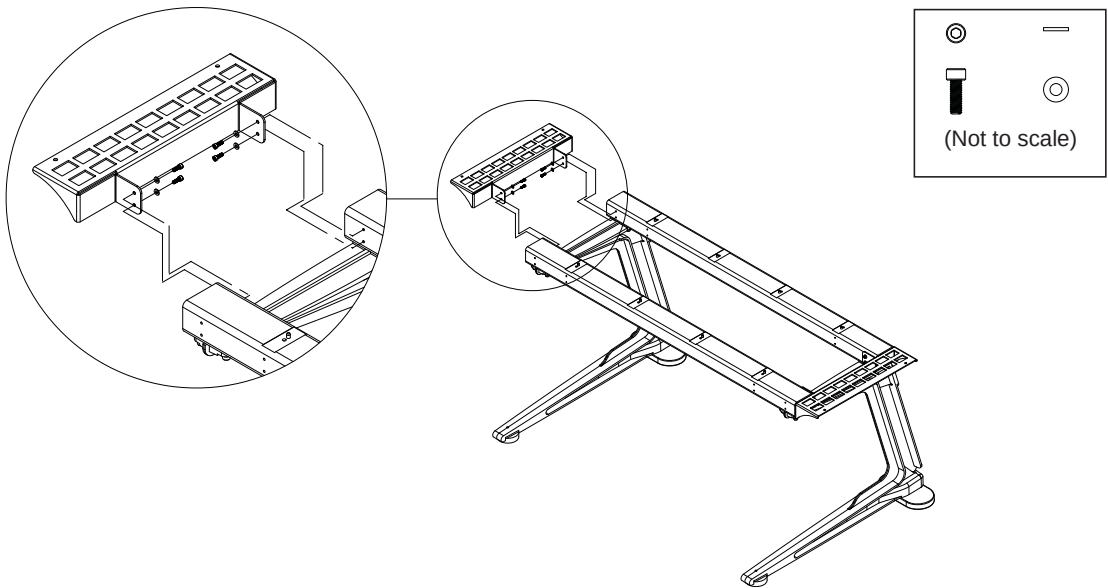

Figure 6. Attaching the Left End Shelf (Right End Shelf shown attached)
- Using four fasteners and washers per side, attach the Left and Right End Shelves to the Legs as shown in Figure 6.